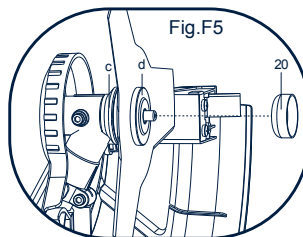

Fig.F5
3)Insert the bolt cover. (see Fig F5)